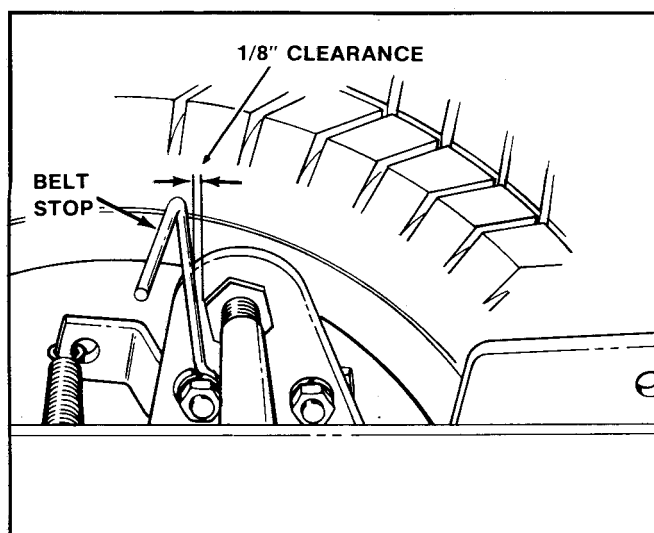

Figure 5
10. On hydrostatic drive units, install the belt stop to the inside rear of the left side plate by removing the nut and lockwasher from the rear capscrew holding on the hydrostatic control spring support (figure 5). Place the stop on the capscrew so that the leg of the stop is over the top of the cable. Replace the lockwasher and nut, making sure that there is at least 1/8 inch clearance between the side of the belt stop and the adjusting nut on the hydrostatic control shaft to avoid interference. When the belt stop is properly positioned, hold it in place and tighten the nut on the capscrew.